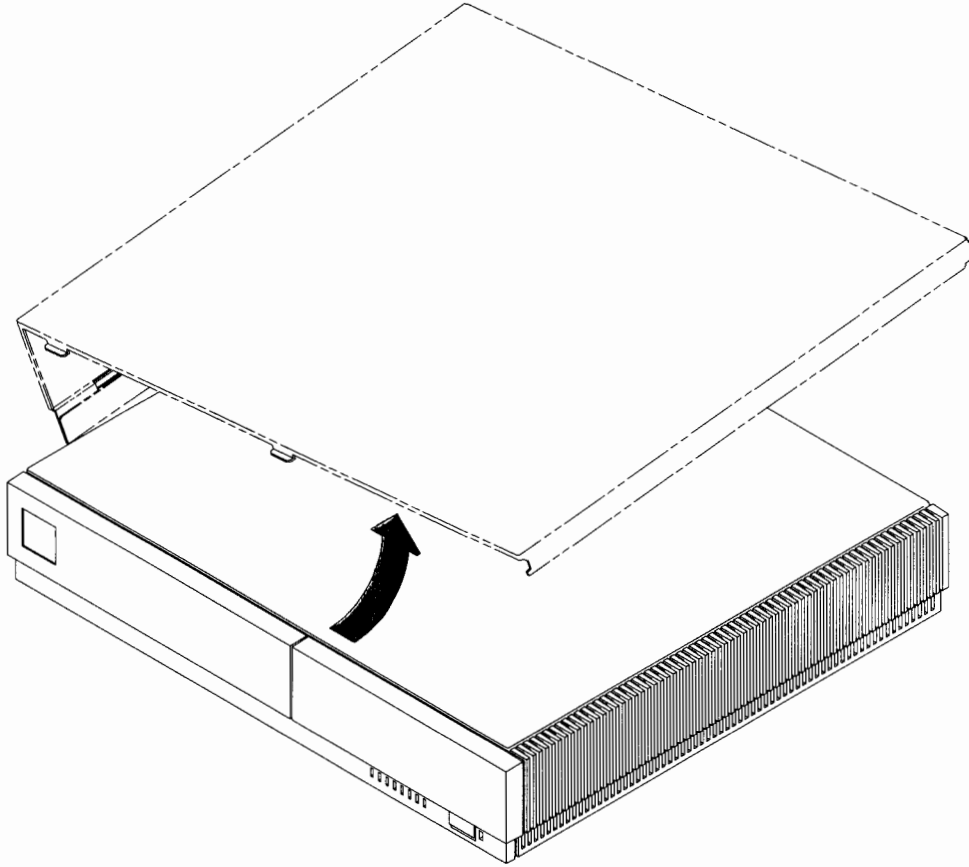

Figure B-3. Removing the Top Cover
3. Lift the cover from the chassis, as shown in Figure B-3.